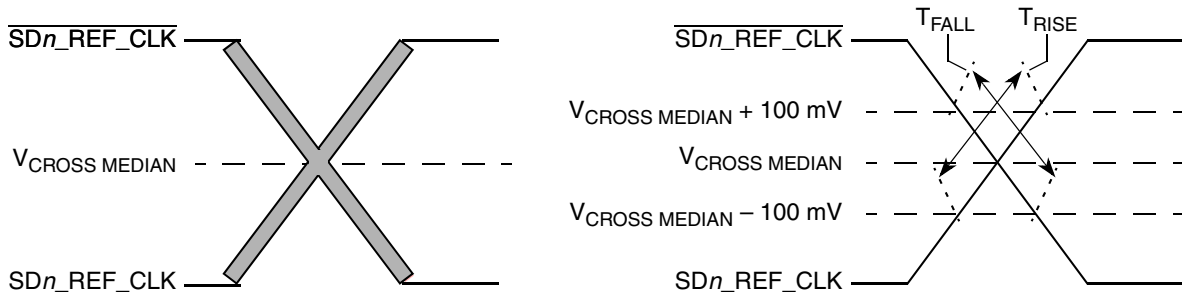

Figure 67. Single-Ended Measurement Points for Rise and Fall Time Matching
- Matching applies to rising edge rate for SDn_REF_CLK and falling edge rate for $\overline{\text{SDn_REF_CLK}}$. It is measured using a 200 mV window centered on the median cross point where SDn_REF_CLK rising meets $\overline{\text{SDn_REF_CLK}}$ falling. The median cross point is used to calculate the voltage thresholds the oscilloscope is to use for the edge rate calculations. The Rise Edge Rate of SDn_REF_CLK should be compared to the Fall Edge Rate of $\overline{\text{SDn_REF_CLK}}$, the maximum allowed difference should not exceed 20% of the slowest edge rate. See Figure 67.